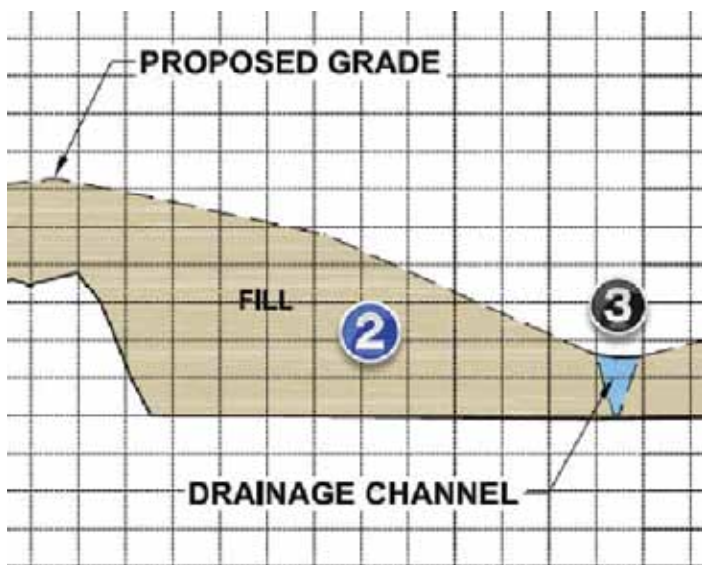

Figure 8: Fill and Drainage boundaries
Now we have to go back to our Profile View Properties dialog box and create two more fill patterns. Using the same technique, add the fill area (2) and the drainage area (3). You will have to use the profile layout tools to create a top boundary for your drainage area. In our example, I called this area "Drainage Channel" and gave that profile the name Channel. Once you have done that, you have completed all the boundaries you need to continue modifying the styles. Figure 8 shows the two new boundaries with fill styles using a solid hatch pattern. We have created or modified three shape styles: drainage, fill material, and cut material.